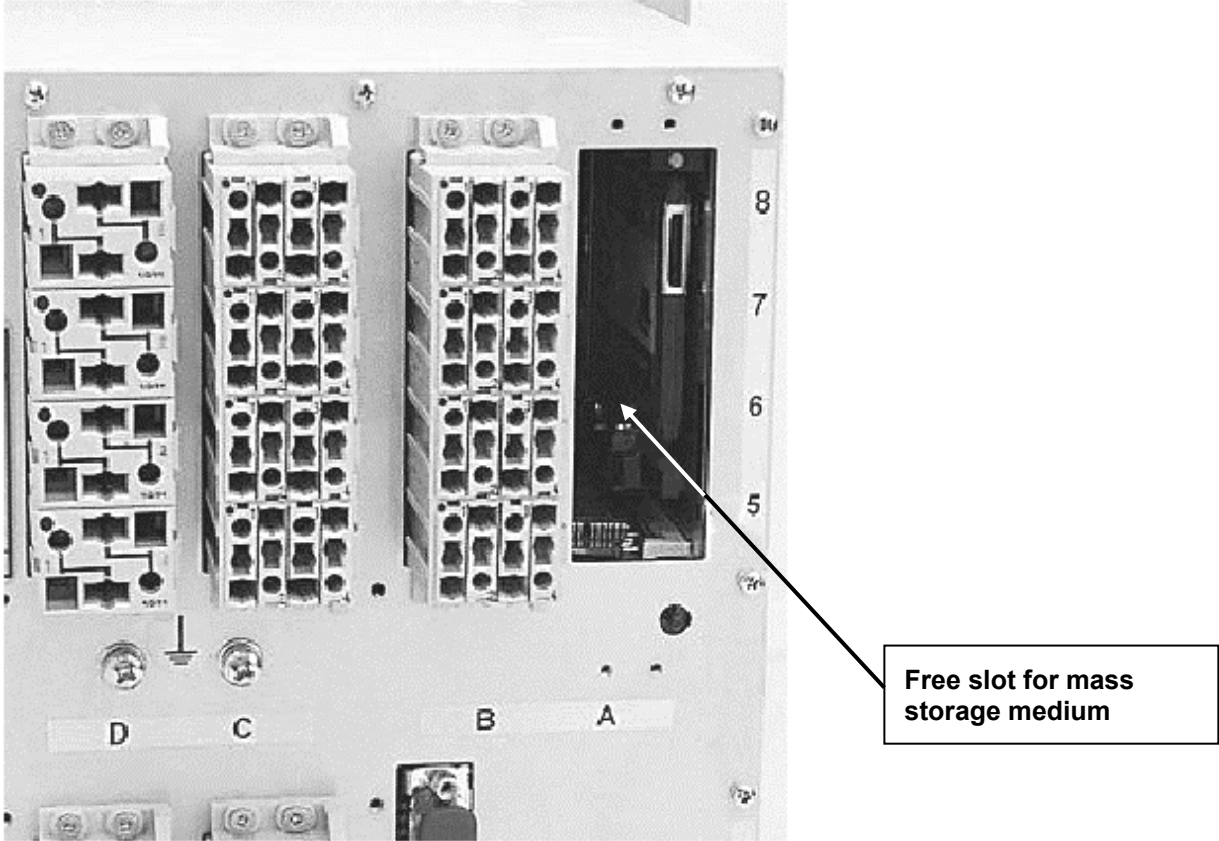

Figure 1: Insertion of the mass storage medium (1)
1. Remove the cover within area A5-A7 on the back of the SIMEAS R (4 screws) (see figure 1).
Figure 1 shows the free slot.